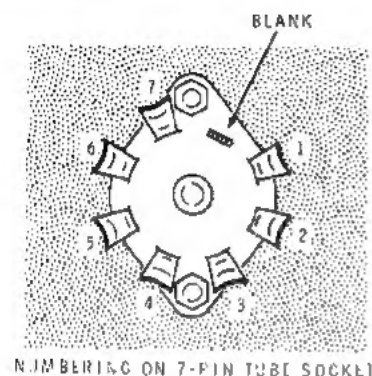

Figure 6
- () Using 3-48 x 5/16" screws and nuts (no lock-washers) mount the four 7-pin sockets in positions F, H, N and S. Locate the blank spaces as shown in Figure 5 (fold-out from Page 7) so as to have the sockets in the best position for wiring. See Figure 6.